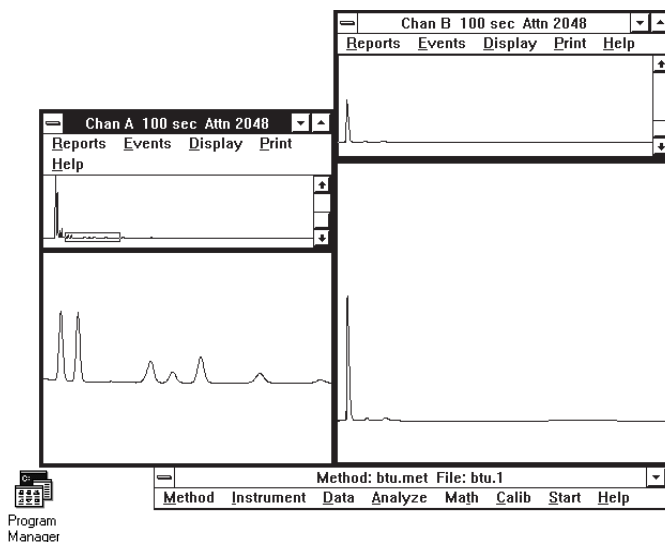

Figure 14 Reduced channel A window
4. Click and hold the **left** mouse button and drag the mouse in any direction and then release. The corner border allows two dimensional growth or shrinkage of any window. (See Figure 14)